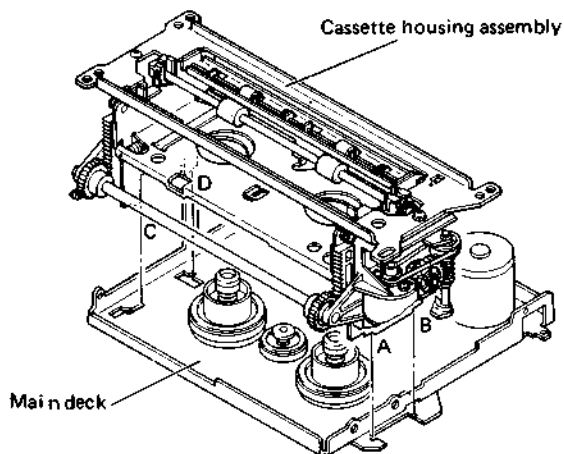

Fig. 4-4 Cassette housing setting
3. To reinstall the cassette housing, first connect the cap housing. Gently set the cassette housing into the main deck while using care that the record safety arm does not damage the leaf switch. Check that the housing is properly engaged at points A, B, C and D as indicated in Fig. 4-4.
5. Shift the cassette housing so that points C and D (Fig. 4-4) are at their most rearward (toward the drum assembly) positions, then tighten the four screws (A).